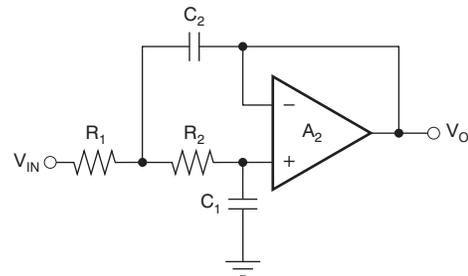
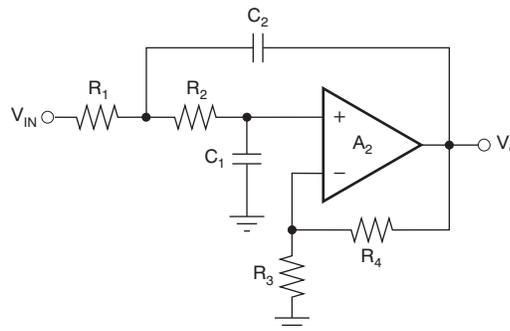

Figure 13. Sallen-Key Complex Pole-Pair Section,
Figure 14. Sallen-Key Complex Pole-Pair Section (Gain = $1 + R_4/R_3$)
- Sallen-Key, shown in Figure 13 and Figure 14